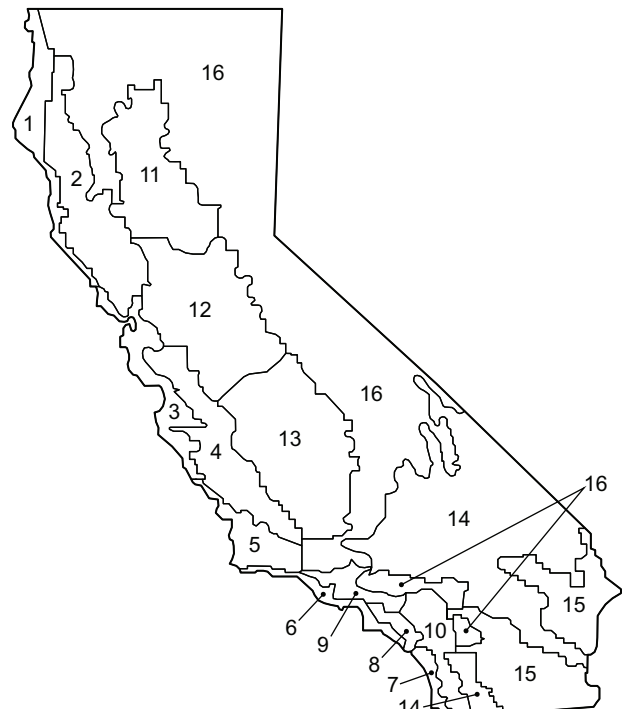

Fig. 88 — California Title 24 Zones
b. See Fig. 88 for map of California Title 24 zones.